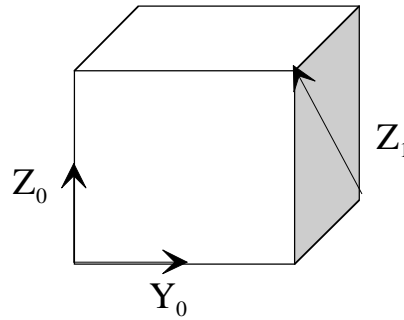

Fig. 1a
1. This examination paper contains four (4) questions and comprises six (6) pages.
- Q.1. (a) Complete the frame assignment for Frame 1 (in Fig. 1a) according to the Denavit-Hartenberg convention given in class. Identify the four Denavit-Hartenberg kinematic parameters that relate the relative position and orientation of Frames 1 and 0.